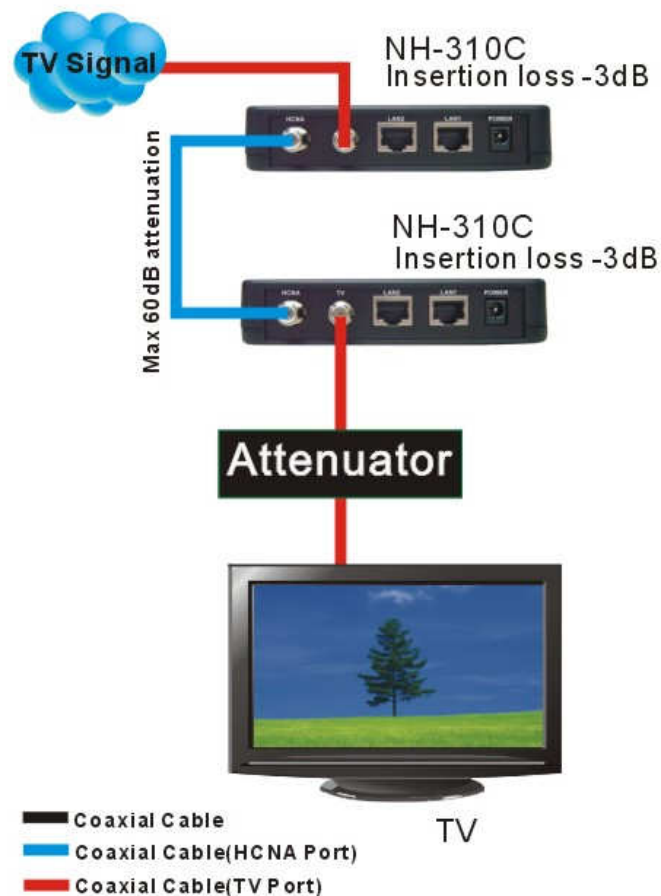

Figure C-1 TV signal connection solution
Solution:	Please verify that the following items to help you clarify the problem: 1. Verify coaxial cable must use RG59(60) 75 ohm cable. 2. Verify TV signal source and TV if available. 3. Check TV signal need to over 50MHz, that will be passed. 4. Add TV signal repeater if TV signal source is too weak. (See Figure C-1 , Situation A) 5. Add attenuator before TV if TV signal is too strong. (See Figure C-1 , Situation B)